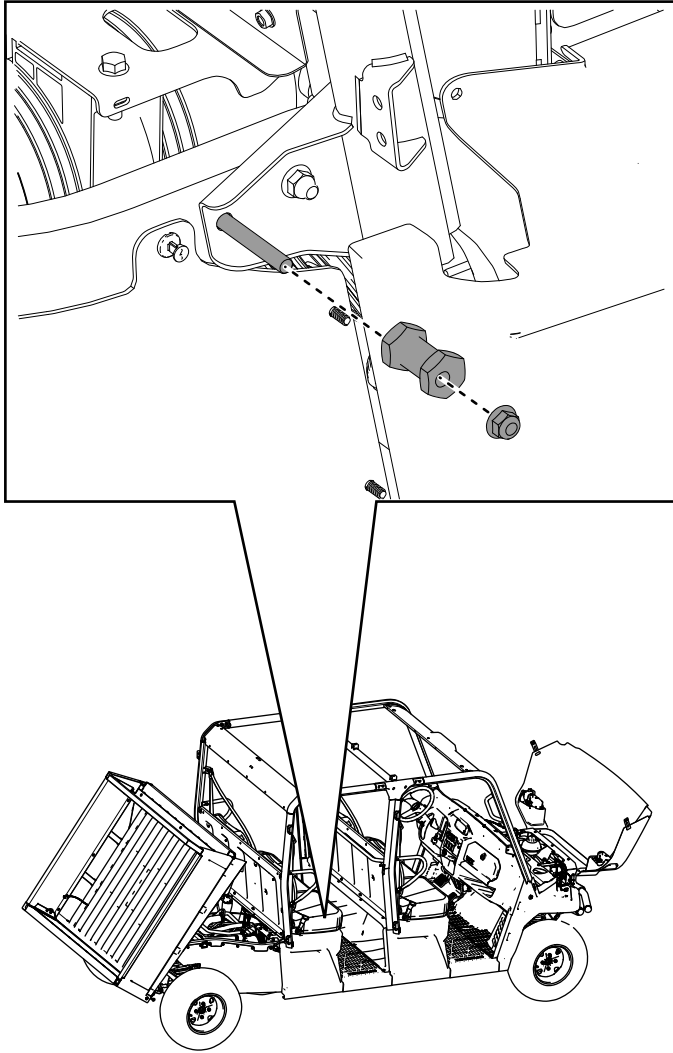

Figure 69
29. Install the previously removed locknuts (3/8 inch) and latch pins to the right and left, rear frame tubes (Figure 69).